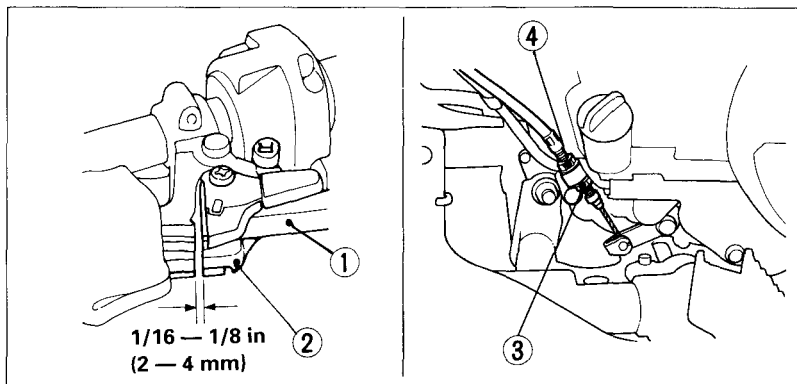

Fig. 4-19
Measure the reverse assist lever (2) free play. Free play, measured at the lever (2) end near the cable (Fig. 4-19), should be within 1/16—1/8 in (2—4 mm).